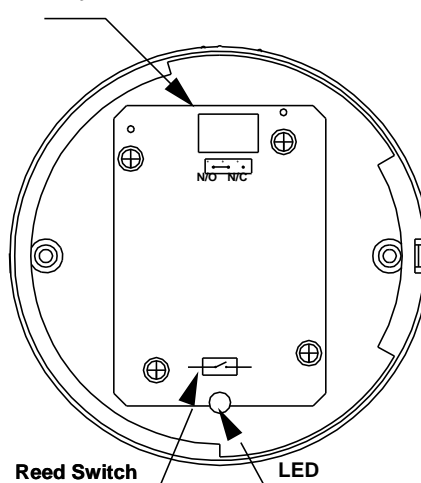

Fig. 3: Adjusting the output relay
2. Remove the jumper header located adjacent to the relay, and reinsert it in the N/C position (see Fig. 3).